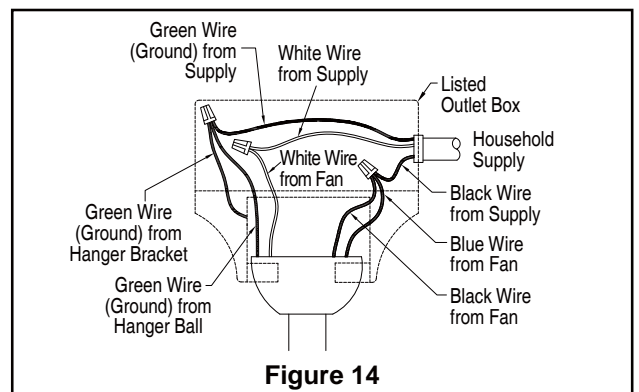

Figure 14
3. After splicing and making the wire connections, the wires should be spread apart and turned upward with the grounded conductor and the equipment-grounding conductor on one side of the outlet box and the ungrounded conductor on the other side of the outlet box. (Figure 14)